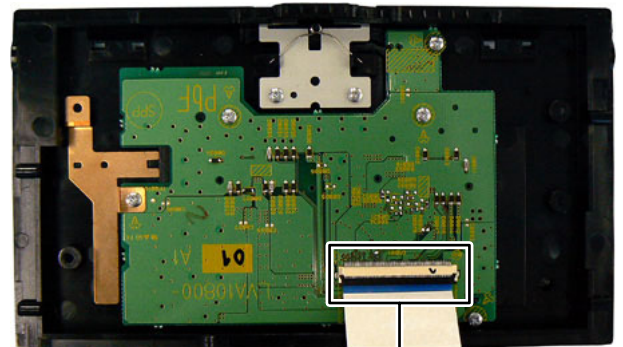

Fig.3
- (2) Disconnect the card wire from Panel board connected to connector CN881 of the Connection board. (See Fig.3)